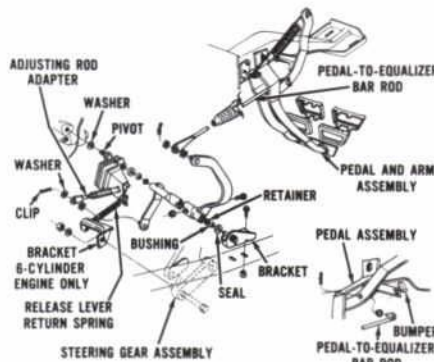

Figure 5—Falcon, Fairlane Clutch Pedal and Linkage Adjustment
2. Loosen the release lever rod locknut (Figures 5 and 6).